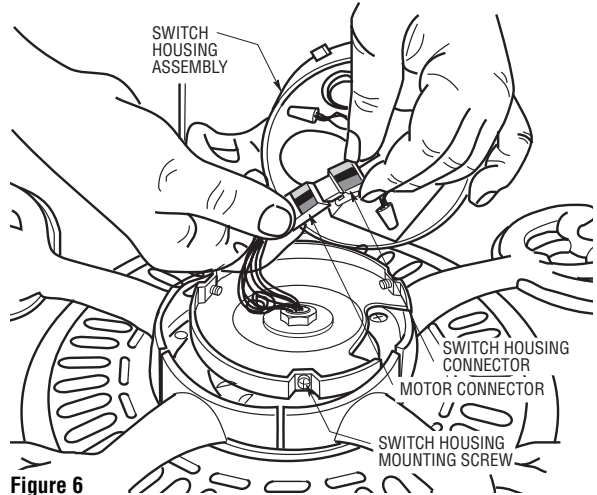

Figure 6
- 12. Engage the connector of the switch housing assembly with the motor connector (Figure 6). The two connectors are keyed and color-coded and must be mated correctly (color-to-color) before they can be engaged. Make sure the connectors latch closes properly.